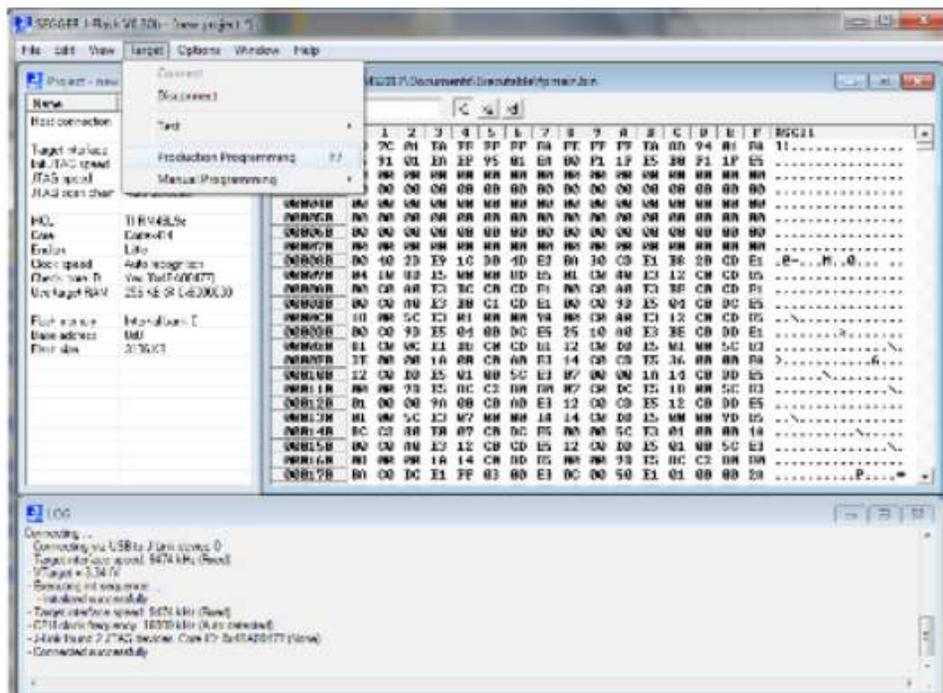

Figure 13: Production programming [Program]
- Again click "Target" (on the top ribbon) and select "Production Programming" on the pop-up (Figure 13, STMA-69069);